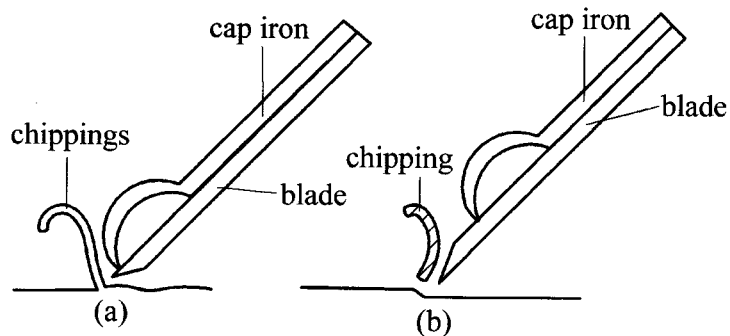

Figure 1
- 7 **Figure 1** shows the blade of a Jack plane fitted in two different ways. (4 marks)